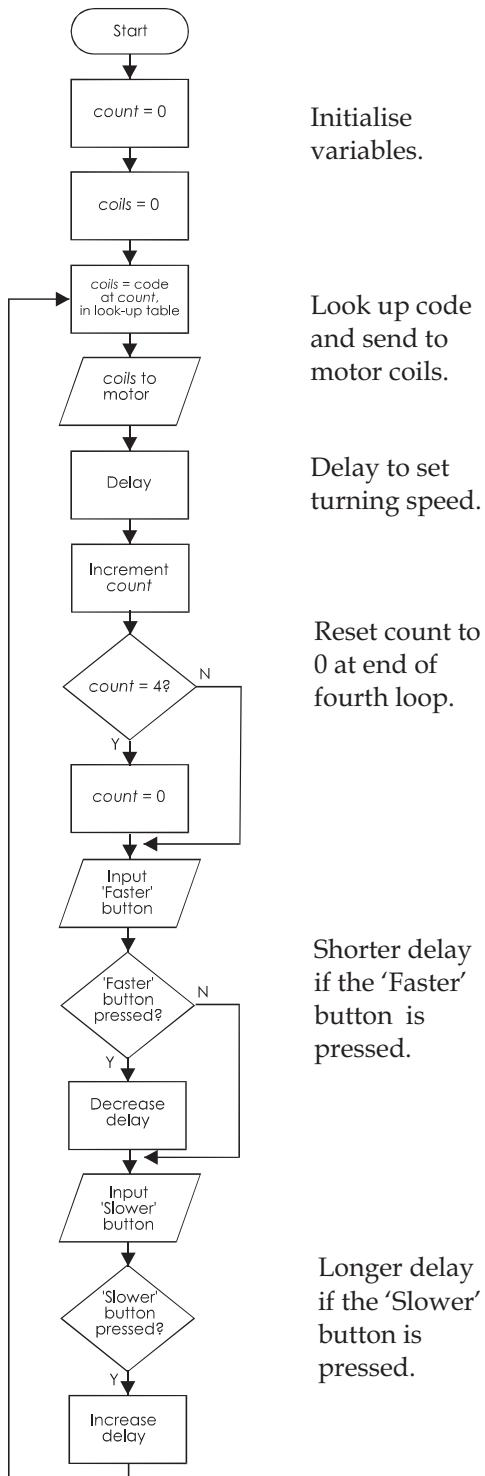

FIGURE 38.21 A routine to control the speed of a stepper motor by using two buttons.
17) **Stepper motor** control uses a look-up table which holds the codes for energising the coils (see 'Rotational Speed Controls', Topic 33). The flowchart shown in Figure 38.21 consists of a loop in which the count repeatedly runs from 0 to 3. At each stage the appropriate code is looked up in the table and sent to the coils of the motor (using four transistor switches).